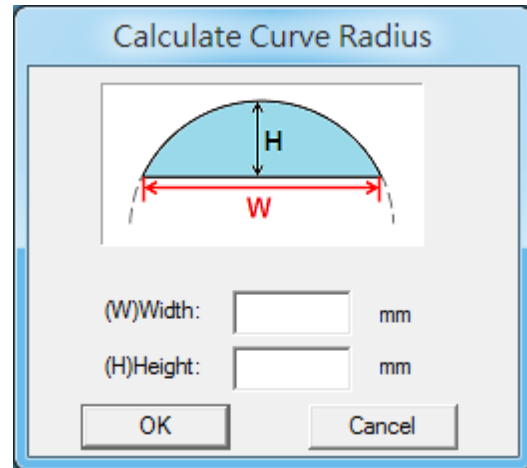

Fig.3.2.28
**Calculate Radius** Calculate radius. Refer to fig.3.2.28.